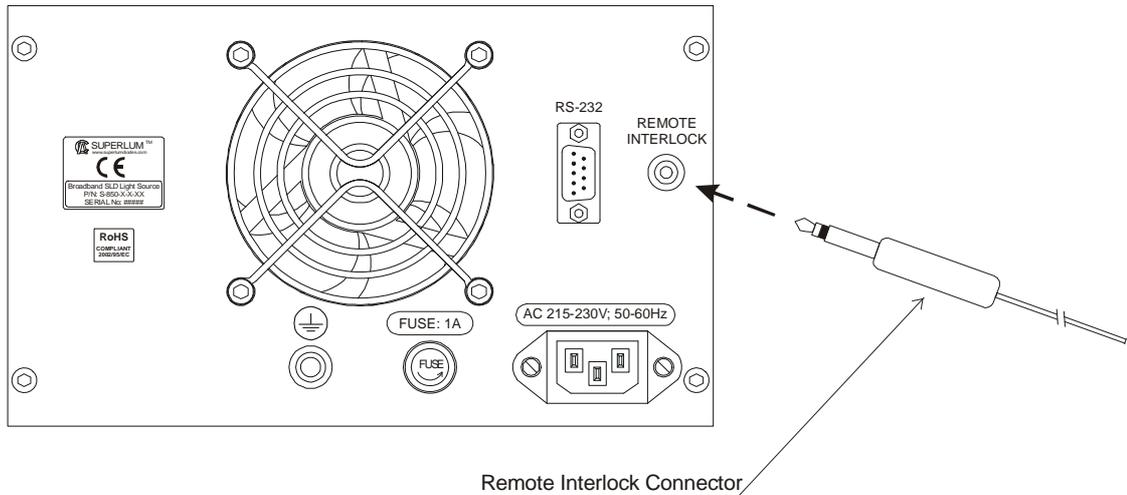

FIGURE 1.4. Rear-Panel Laser Safety Features
- ❑ **Remote interlock connector**—This feature, located on the rear panel of the instrument, allows the instrument to be connected to your local external controls for laser safety (see Figure 1.4). The instrument is inoperable unless the interlock connection is made. If there are no external controls in your local area or the use of these controls is not essential for you, an appropriate short-circuited connector must be installed to the rear-panel remote interlock jack. With this connector installed, you will be able to use the instrument independently of your local laser safety system. The necessary connector is supplied with the instrument.